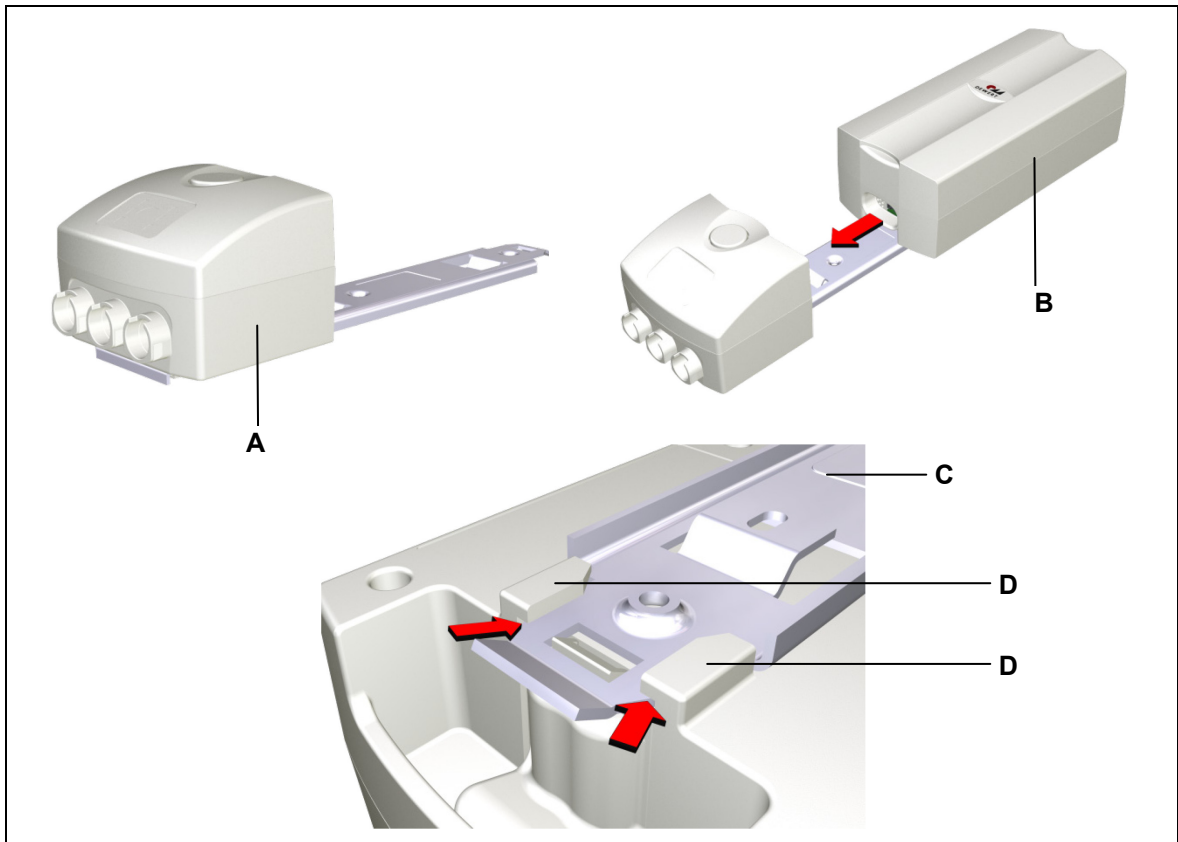

Figure 19 Inserting the ACCU AC 4.5 and ACCU AC 4.5DC in the charging station
- 3 Slide the ACCU on the charging station (as shown in Figure 19) until it clicks into place. The housing guide tabs must enclose the mounting rail to ensure a tight fit.